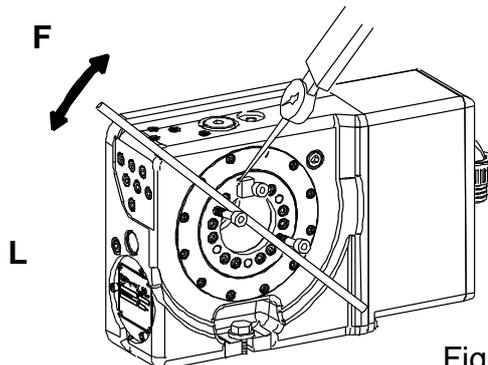

Fig.2
11-1. Measuring the Backlash of the Worm Gear [See Fig.2]
- 2) Turn the table slowly by using the tap on the surface of the table as shown in Fig.2. And read the value of the dial gauge when tooth of the worm wheel makes contact with a worm shaft. At this time, the rotating torque added to the table is as follows. Then, rotate the table on the same conditions to the opposite direction. The difference of these measurements is the amount of backlash.